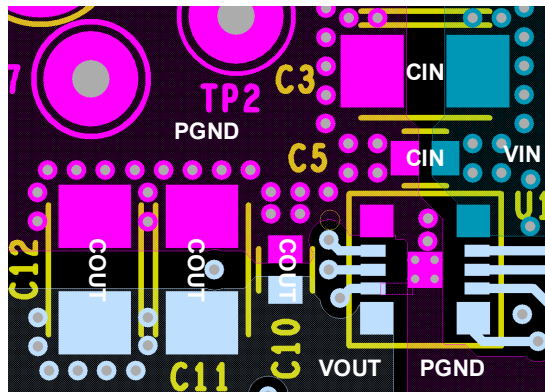
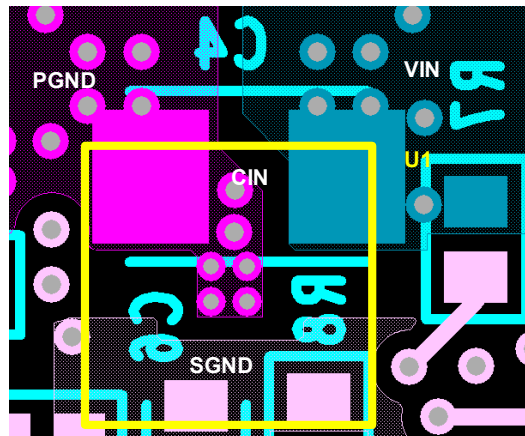

Figure 4. Layout Example - Top Layer
Figure 5. Layout Example - Bottom Layer
- Place the input ceramic capacitors as close as possible to the module input. These ceramic capacitors minimize the high frequency noise by reducing the parasitic inductance of the power loop. Proper placement of these capacitors not only leads to less PHASE node spikes and ringing, but also minimizes the switching noise coupled to the module. Renesas recommends using dielectric X7R or equivalent with a minimum total capacitance of 44μF at the module input. A layout example is shown in Figure 4 and Figure 5.